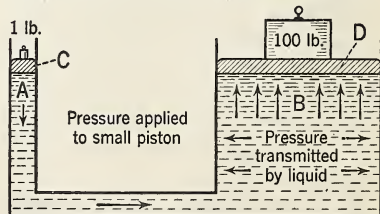

FIG. 39. Pressure applied to a confined liquid is transmitted equally in all directions.
40. How is transmission of liquid pressure used to multiply force? From Pascal's law, we are led to the following conclusion: If *A* of Fig. 39 has an area of 1 sq. in. and *B* an area of 100 sq. in., a weight of 1 lb. lying on the piston *C*